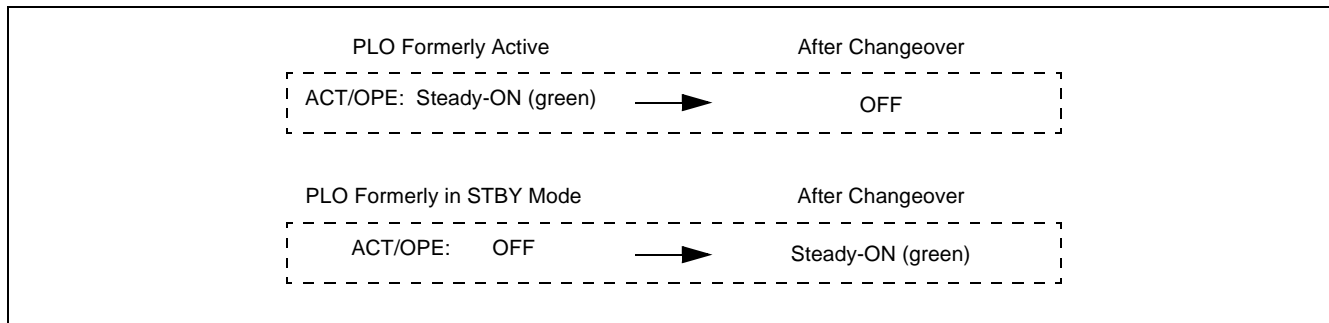

Figure 6-56 LED Indications Before and After PLO Changeover
- (1) To confirm the imposed PLO changeover, check the following lamps on both PLO cards. The LED indications must change as shown in Figure 6-56 when the PLO system has been correctly changed over.